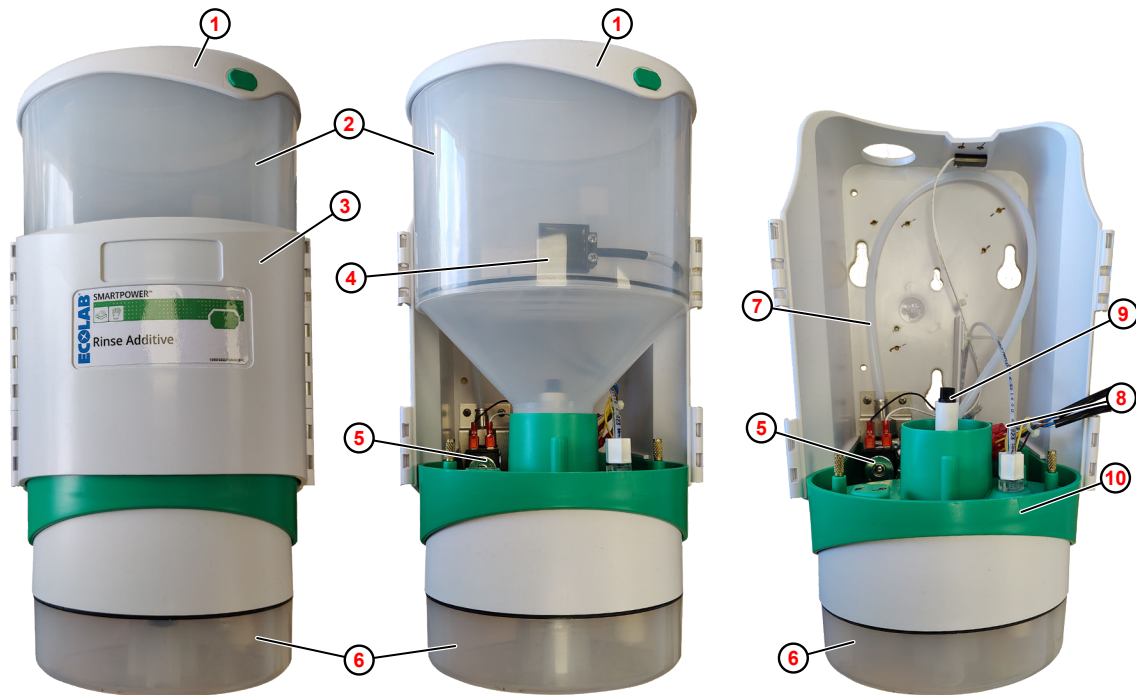

Fig. 1: Setup
The SMARTPOWER™ Rinse Dispenser is an automatic dispenser for Ecolab pressed rinse aid products. It essentially consists of a base (Fig. 1, ⑩), a product cylinder with product feed ② to accommodate the compressed rinse aid, a solenoid valve ⑤ and a spray nozzle ⑨. To improve the rinse aid concentration and concentration consistency, the clean water can be dispensed in pulse mode with a Rinse-Pulse-Timer board.